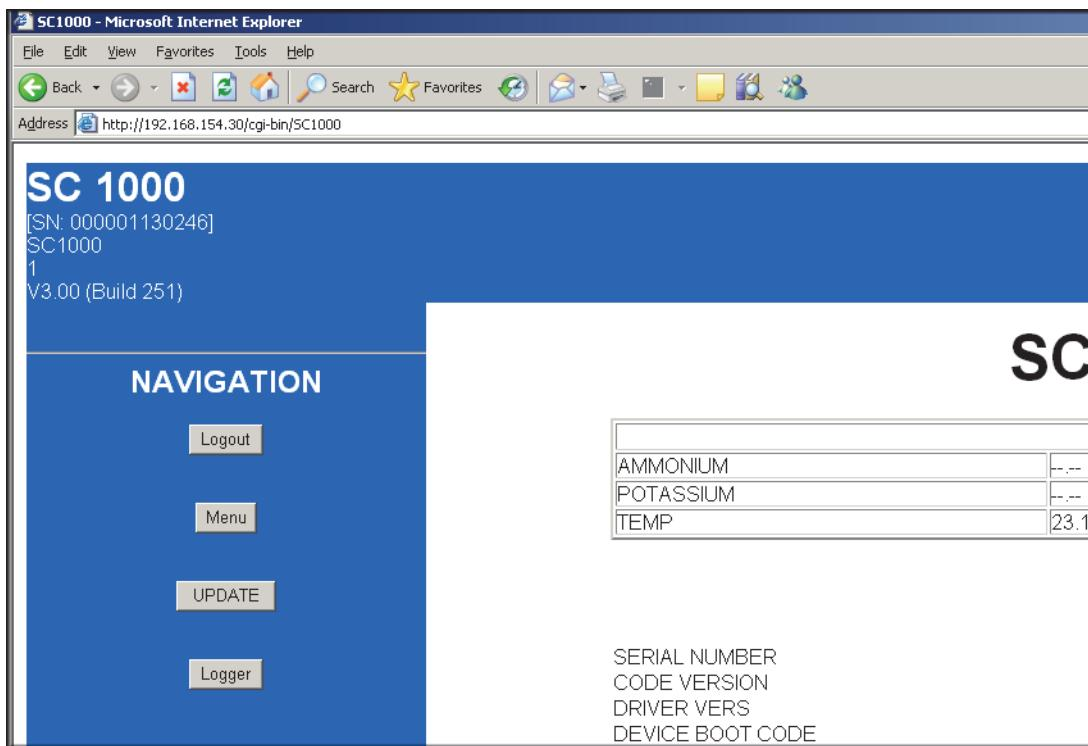

Figure 10 UPDATE button
6. Press the **UPDATE** button under NAVIGATION (Figure 10).